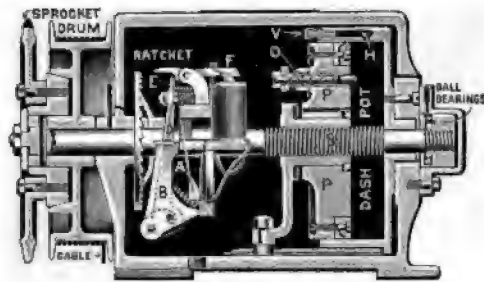

Fig. 4—Vertical Section of Monarch Type of Stop.
In Fig. 4 will be seen a wire cable passing around this drum which is attached to a weight serving as power to operate the stop.
At the opposite or right end of the stop is a dash-pot, as illustrated in Fig. 4, which consists of a cylinder into which the piston (P) fits closely. On this end of the shaft is cut a square threaded screw (S), passing through a nut fastened in the centre of piston (P), so that as the shaft revolves by means of this screw the piston is carried into the cylinder and the air behind its inner face is compressed, forming a perfect cushion. The speed at which the stop acts may be accurately adjusted by turning the by-pass valve (V) that governs the amount of air that is forced through the air passage (H) as the piston moves in. Below this by-pass valve (V) and in piston (P) is located the releasing valve (O); this releasing valve (O), which is opened by contact against the bottom of the dash-pot, is adjustable. After the piston has cushioned and the throttle valve of the engine is near its seat, the compressed air in chamber (H)